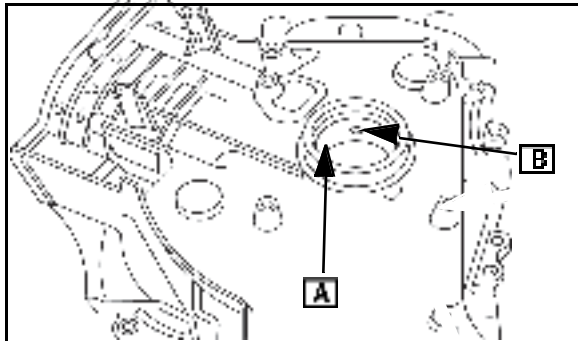

Fig. 25
2. Position new bushing against counter-bored bearing with the oil hole aligned with hole (B) in the side of the bore ([A] Fig. 25).
3. Press the new bearing (A) into place.